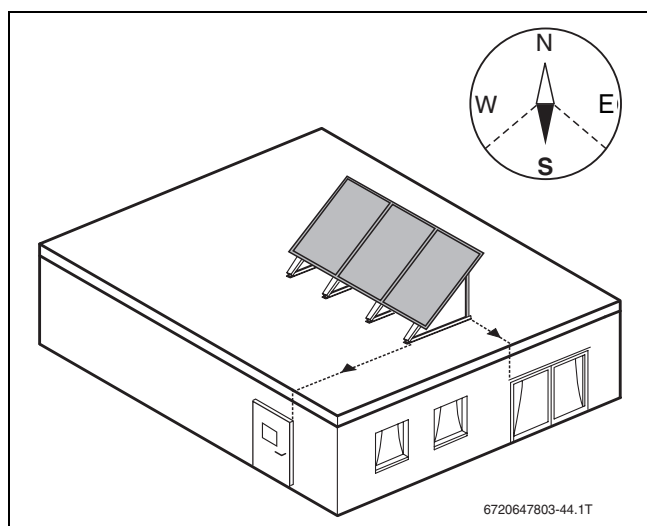

Fig. 10
- Align the collector array facing as close to south as possible (→ Fig. 10).
- Align the collector array so that it is in line with windows, doors etc. (→ Fig. 10).